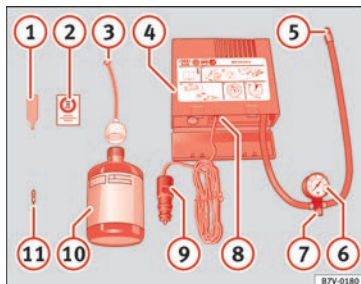

Fig. 97 Standard representation: contents of the anti-puncture kit.
» **Fig. 97:**
Screw the inflator tube »» Fig. 97 ⑤ again and check the pressure on the gauge ⑥.